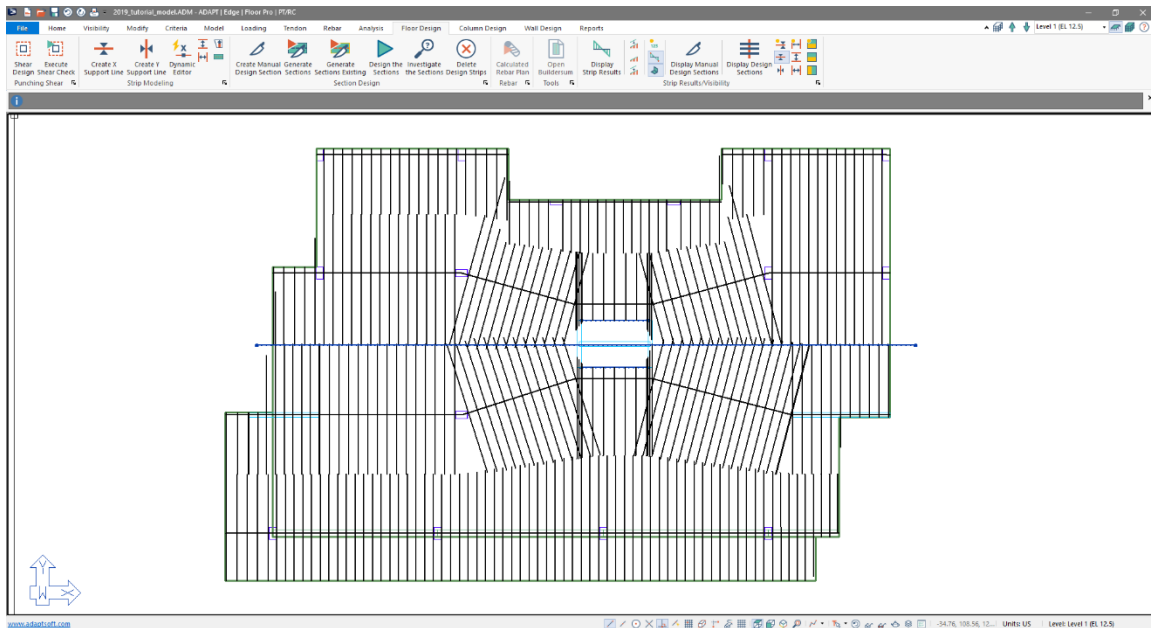

Figure 9-24
- When finished the users screen should look similar to **FIGURE 9-24**.